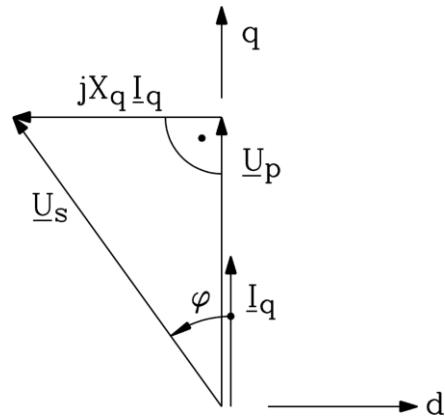
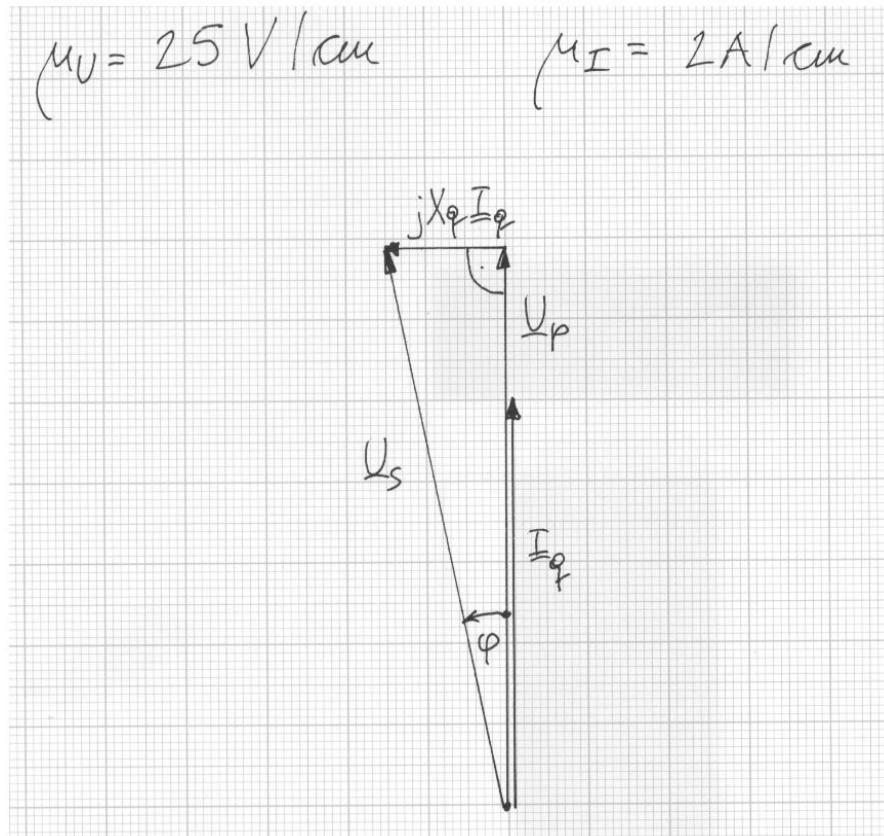

Fig. 26-3: Voltage diagram for q-current, motor operation, R_s neglected
Fig. 26-4: Voltage diagram for q-current, motor operation, R_s neglected
With $X_{s\sigma} = 1.4 \Omega$, $R_s \approx 0$, we get acc. to Fig. 26-3:
7) Voltage phasor diagram acc. to Fig. 26-3 is given in Fig. 26-4.